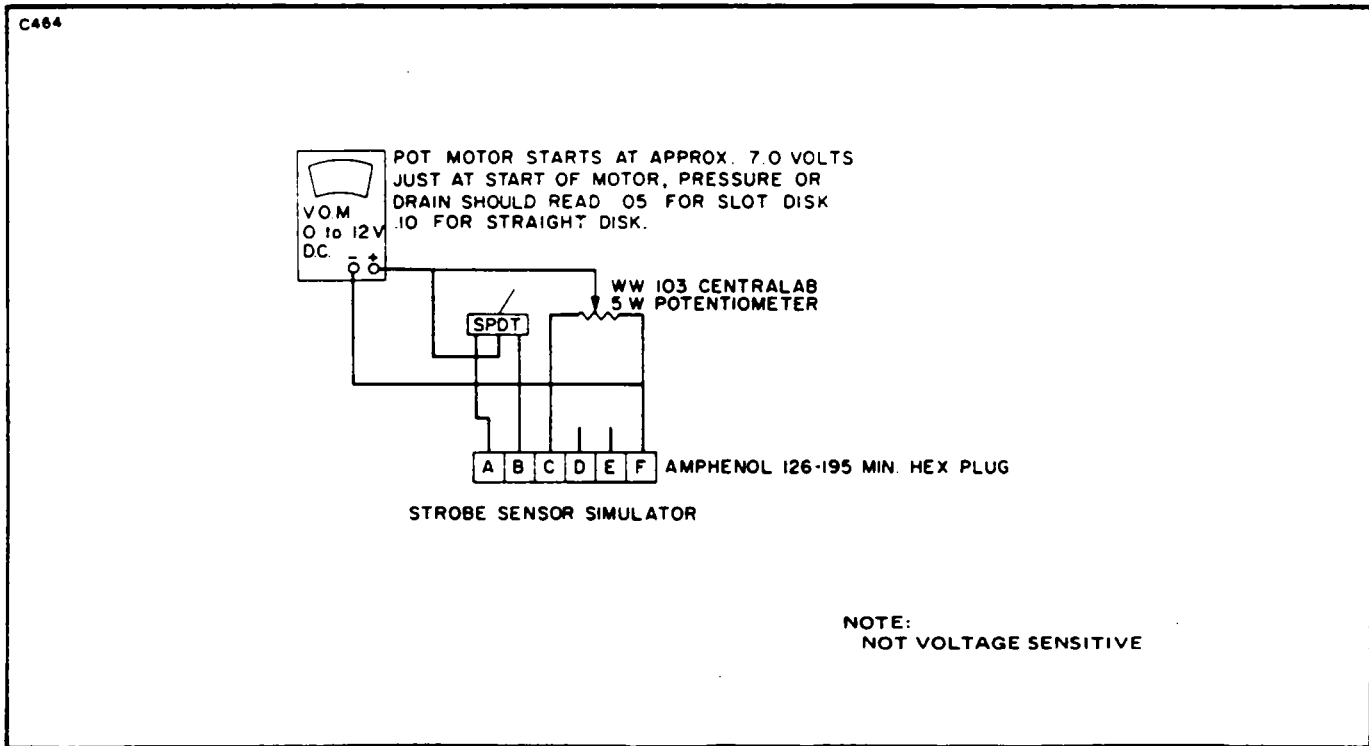

Figure 14-54. Strobe Sensor Simulator
- (d) Connect the strobe sensor simulator. (Refer to Figure 14-54.) Move the potentiometer and listen to the computer. The motor should run at approximately 7 volts.